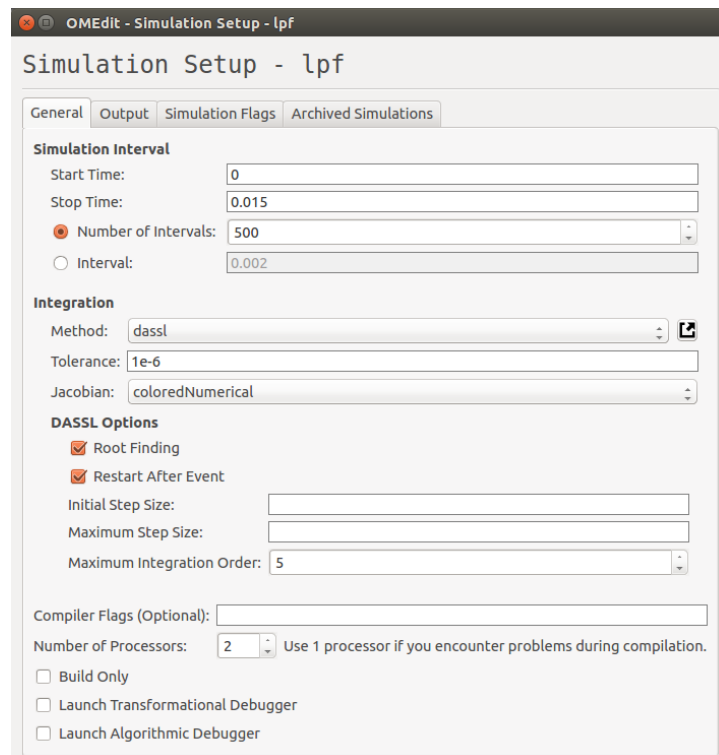

Figure 12.6: OpenModelica: Simulation setup
6. Click on Simulation Setup on the toolbar at the top. A window opens as shown in Fig. 12.6. Give start and stop time. Click OK.